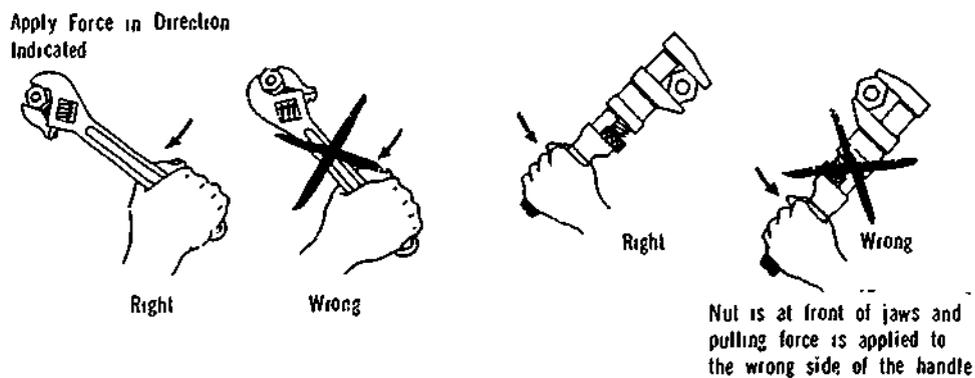

Figure 7-28. Use of Open-Ended Wrenches
i) Always position an adjustable open-end wrench so that the force used to turn it is applied to the stationary-jaw side as depicted in Figure 7-28.